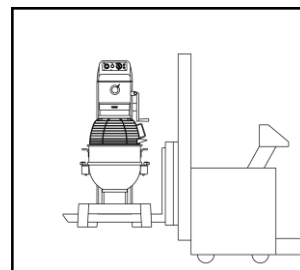

Figure 1
- Please use forklift to transporting. Please refer to **Figure 1**.